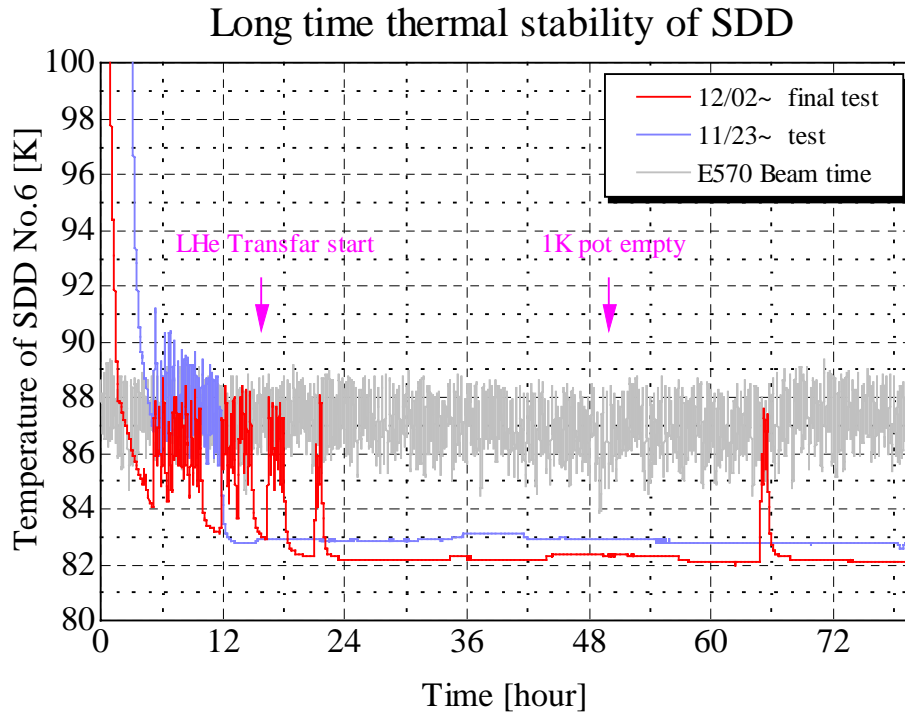

Fig. 4. Thermal stability by He cooling
- The thermal stability of SDD No.6 by He cooling is shown in the following Fig. 4, 5.